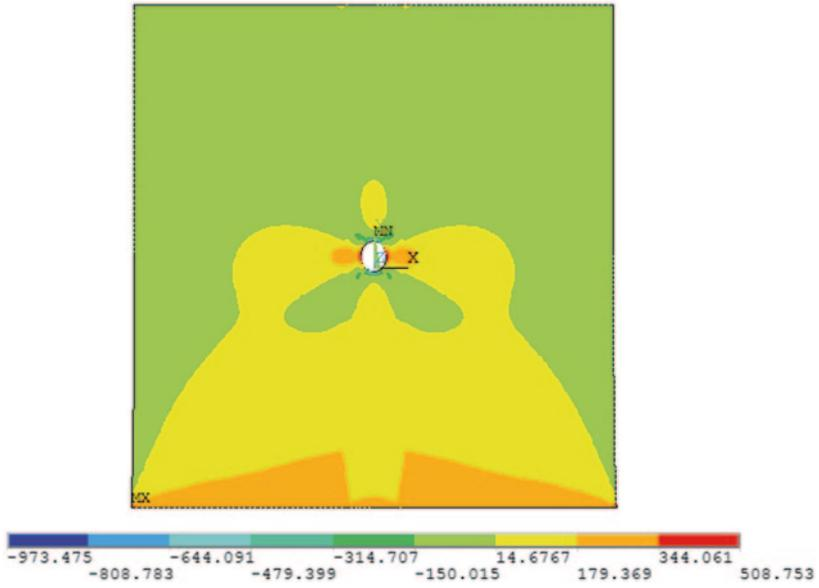

Fig. 8.15 Contour plot of σ_{xx}
- The contour plot of σ_{xx} appears in the *Graphics Window*, as shown in Fig. 8.15.